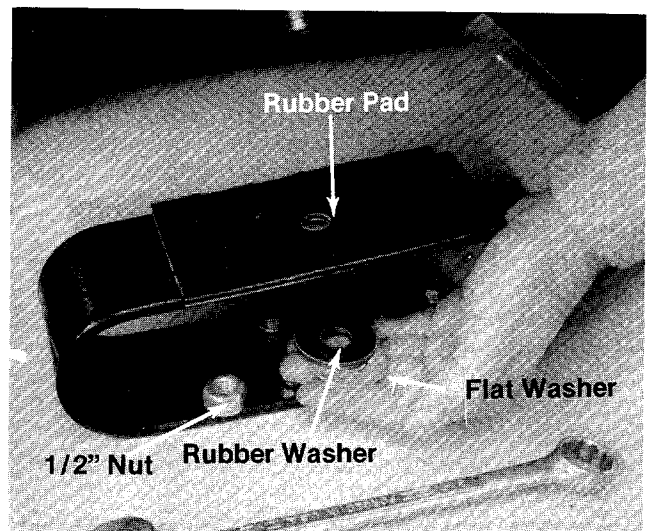

FIGURE 2
- Step 6. Place the rubber pad over one of the mounting holes in the seat spring. See figure 2.